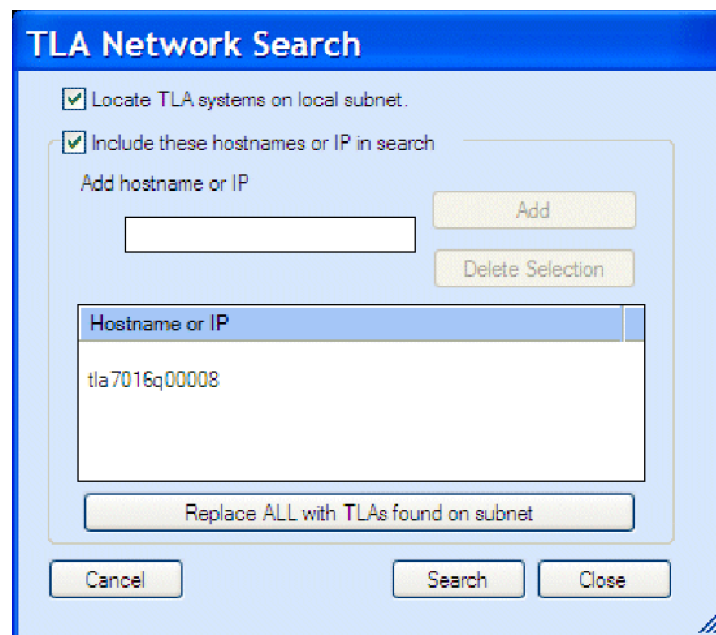

Figure 16: TLA Network Search dialog box
- a. Click  (Search icon) to open the TLA Network Search dialog box. (See Figure 16.)